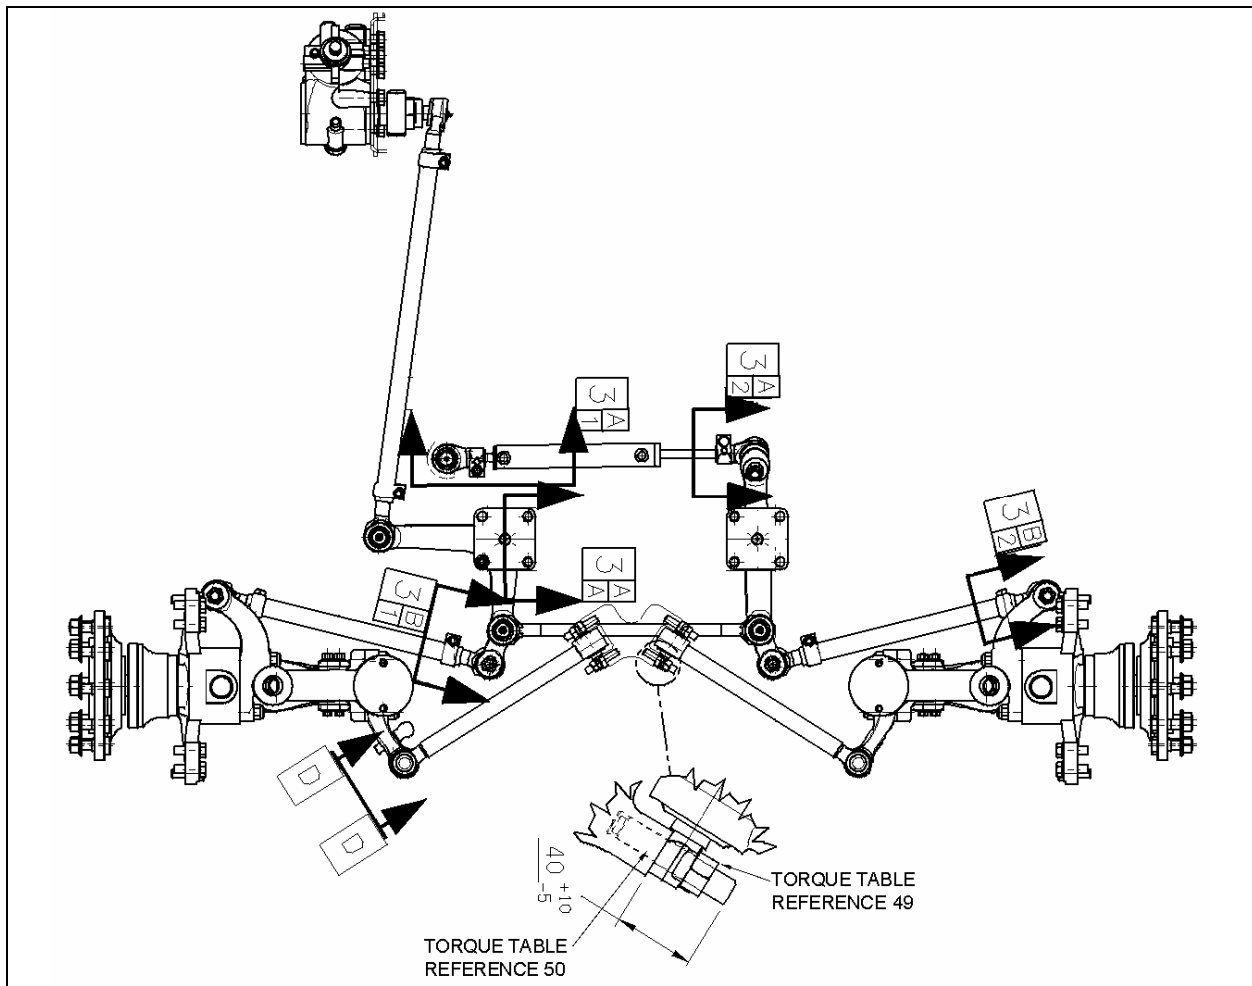

FIGURE 13: LOCATION OF CLAMPS
2. For a full left and right turn, check clamps' position and for interfering parts. Refer to figures 13 to 19 for location and positioning of clamps. If readjustment is required, make the proper adjustment.
Note: Install grease retainer according to figure 13. Grease must be able to exit the bell crank or idler arm mechanism. For grease retainer installation use tool Prevost # 110683.